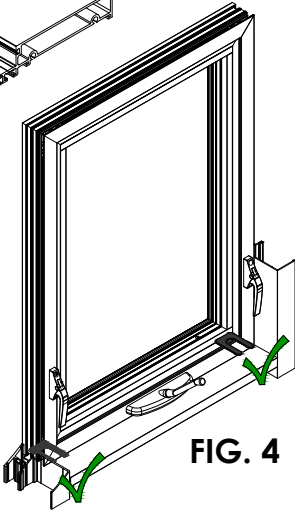
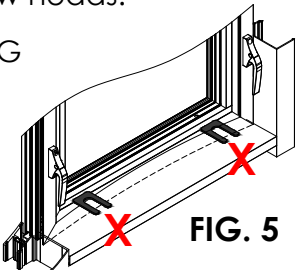

FIG. 4
FIG. 5
- a. Set Horseshoe shims onto the sill opening at each corner. Carefully set the vent onto the shims . **See FIG. 4 & FIG. 5**